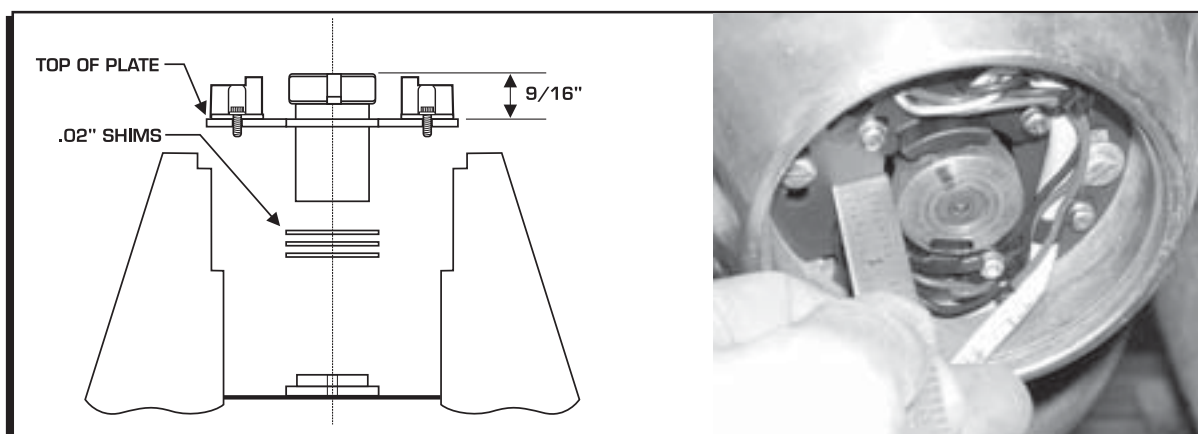

Figure 4 Checking the Rotor Height.
4. Check the distance from the outer surface of the pickup plate to the end of the installed rotor (Figure 4). If necessary, add shims until the measured rotor height is 9/16" (+/- 1/32").